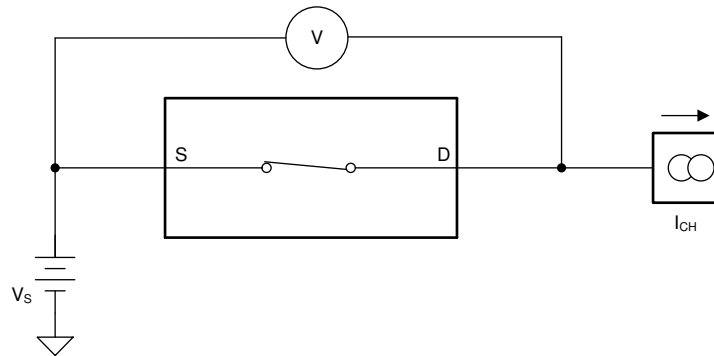

Figure 7-1. On-Resistance Measurement Setup
The on-resistance of the TMUX6119 is the ohmic resistance across the source (SA or SB) and drain (D) pins of the device. The on-resistance varies with input voltage and supply voltage. The symbol R_{ON} is used to denote on-resistance. The measurement setup used to measure R_{ON} is shown in Figure 7-1. Voltage (V) and current (I_{CH}) are measured using this setup, and R_{ON} is computed as shown in Equation 1: